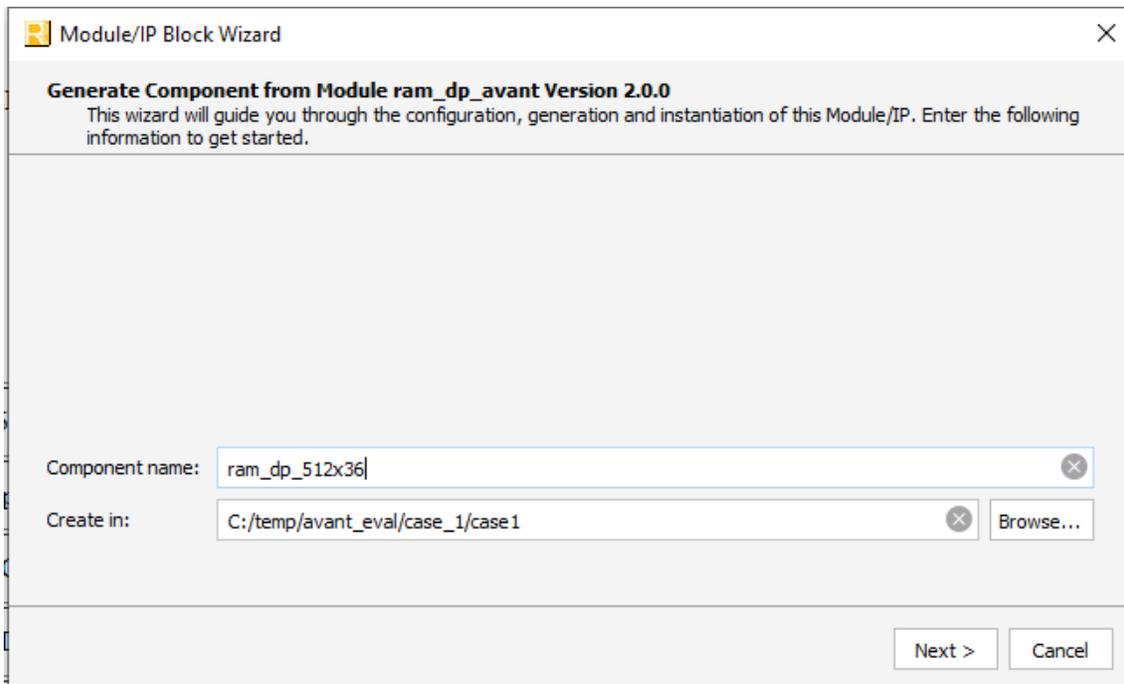

Figure 2.3. Example: Generating Pseudo Dual Port RAM (RAM_DP) Using IP Catalog
2. Fill out the information of the module to generate ash shown in Figure 2.3.